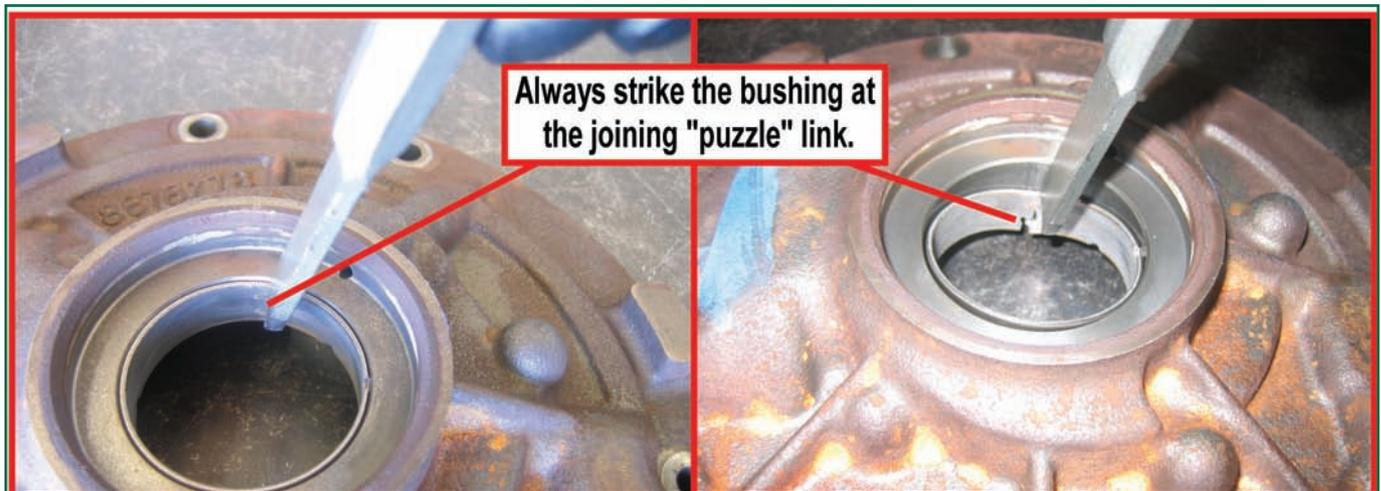

Figure 8
2. When using a hammer and bushing splitter, make the strike where the two ends of the bushing meet (figure 8). This usually breaks the bushing in half on the first strike.